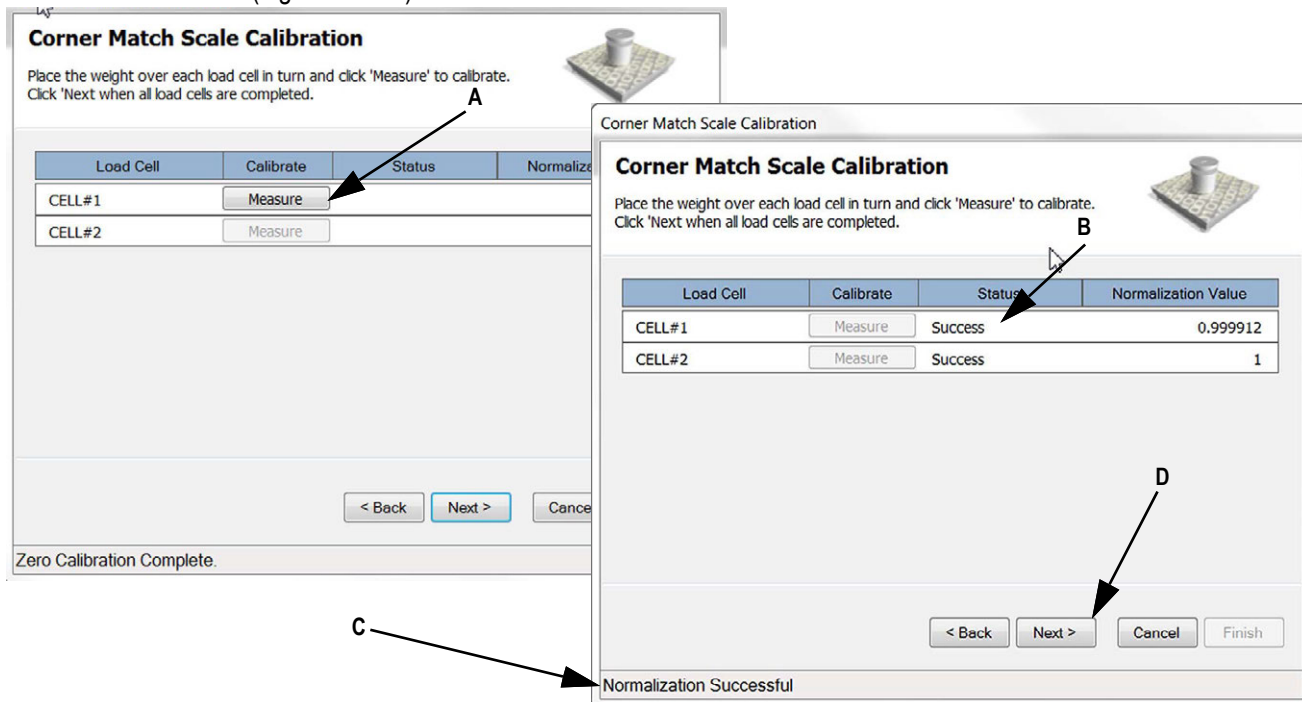

Figure 4-13. Load Cell Calibration
8. Press **Measure** (Figure 4-13 A).
9. Load Cell #1 Status will read **Success** (Figure 4-13 B) and Load Cell #2 **Measure** will become available. Repeat steps 9-11 for Load Cell #2.
10. When both load cells have been calibrated (status reads **Success** for both Cell #1 & #2, Figure 4-13 B) and the **Normalization Successful** message appears (Figure 4-13 C) press **Next** (Figure 4-13 D).